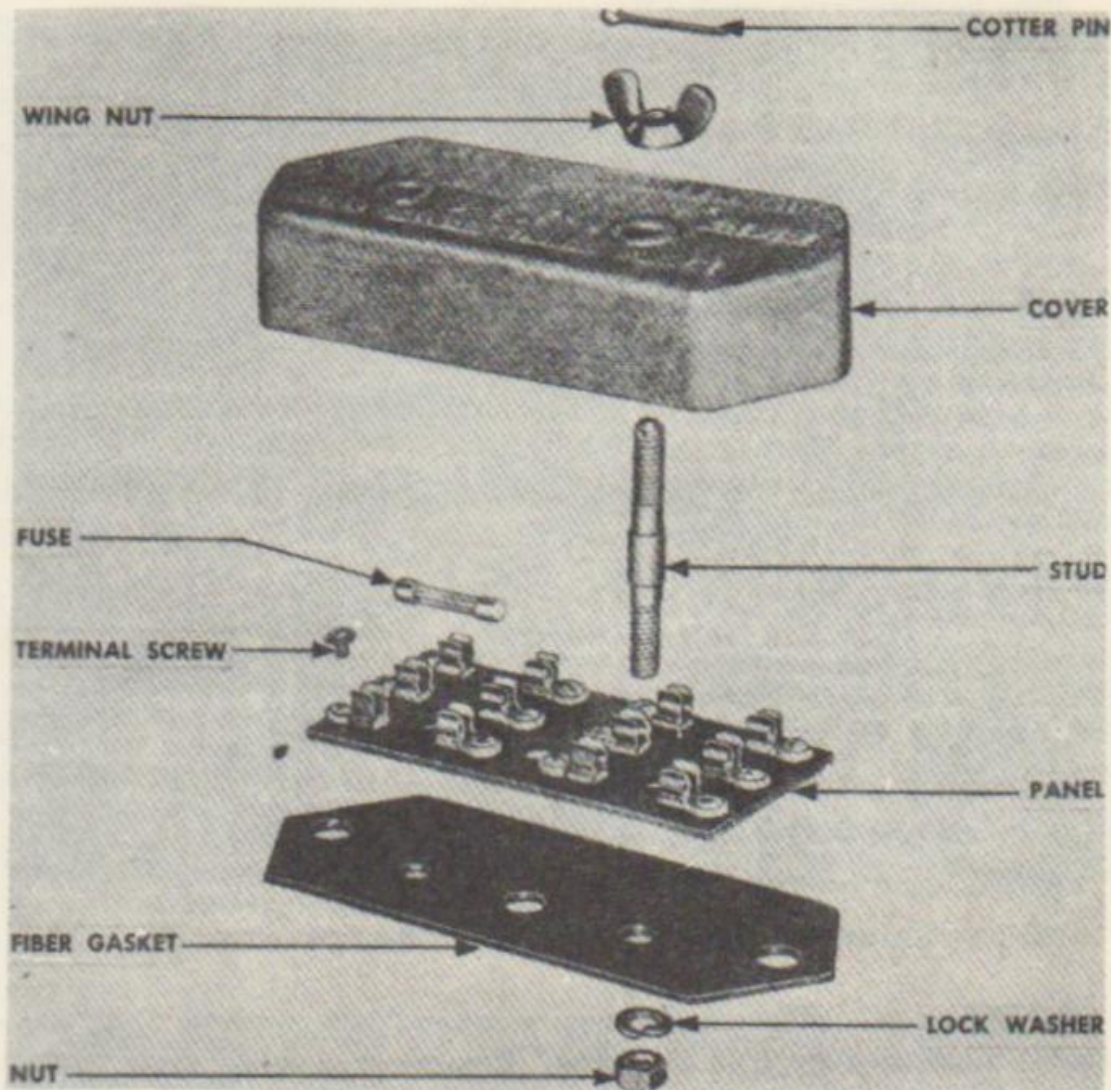

FIGURE 70. FUSE PANEL—EXPLODED VIEW
a. Removal (fig. 70). Fuse panel is located on front crossmember on trailer with U. S. Registration Nos. 0810705 thru 0811563. Remove cotter pins from studs. Remove two wing nuts and lift cover off the panel. Pull fuse out of retainer clips. Remove terminal screw and lift off the wires. Remove nut and lock washer from the two studs, and remove panel and fiber gasket.